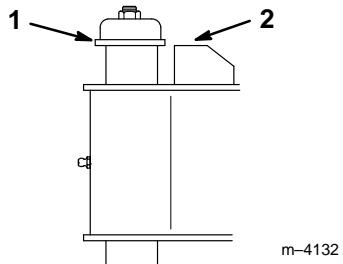

Figure 13
- When sweeping, try to keep the flange on the top of the pivot pin level with the gage plate (Fig. 13). This will allow you adequate room for movement if you run over bumps or low areas.